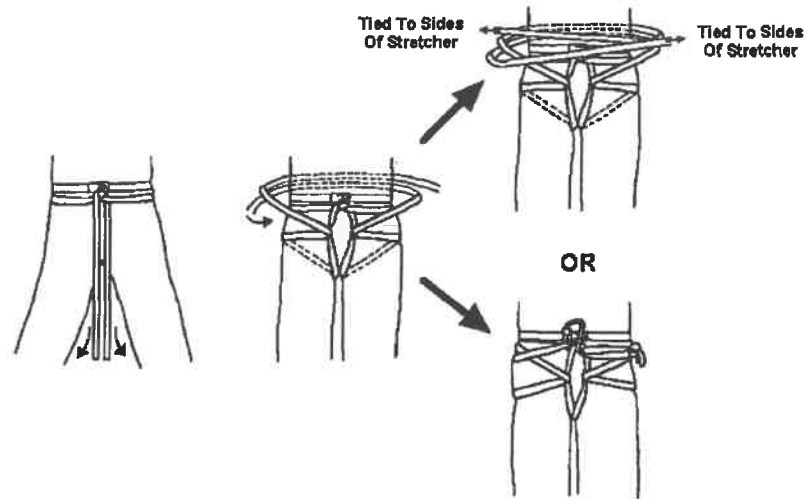

Figure 4-25
- Harness support (Figure 4-25) - This method is used when the victim has injuries to the lower extremities that prohibit the use of the foot support mentioned above. This method must be put on the victim prior to securement to the backboard. The harness is then secured to the backboard. This method is also used in conjunction with the foot tie in as a secondary attachment to the stretcher and also as an additional safety when attached directly to the belay line. Once the backboard is placed into the basket stretcher, the victim is secured into the stretcher by the use of a 30 - 35 foot piece of webbing. Use the following procedure (Figures 4-26 and 4-27):